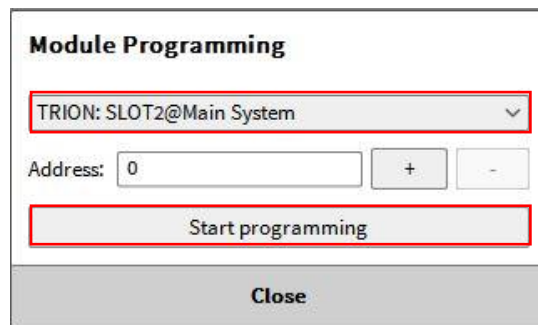

Figure 2-28: Module programming UI
- Select the proper Serial Port and click on *Start programming* (see Figure 2-28). If the modules are connected to several serial ports, the Programming must be repeated for each serial port